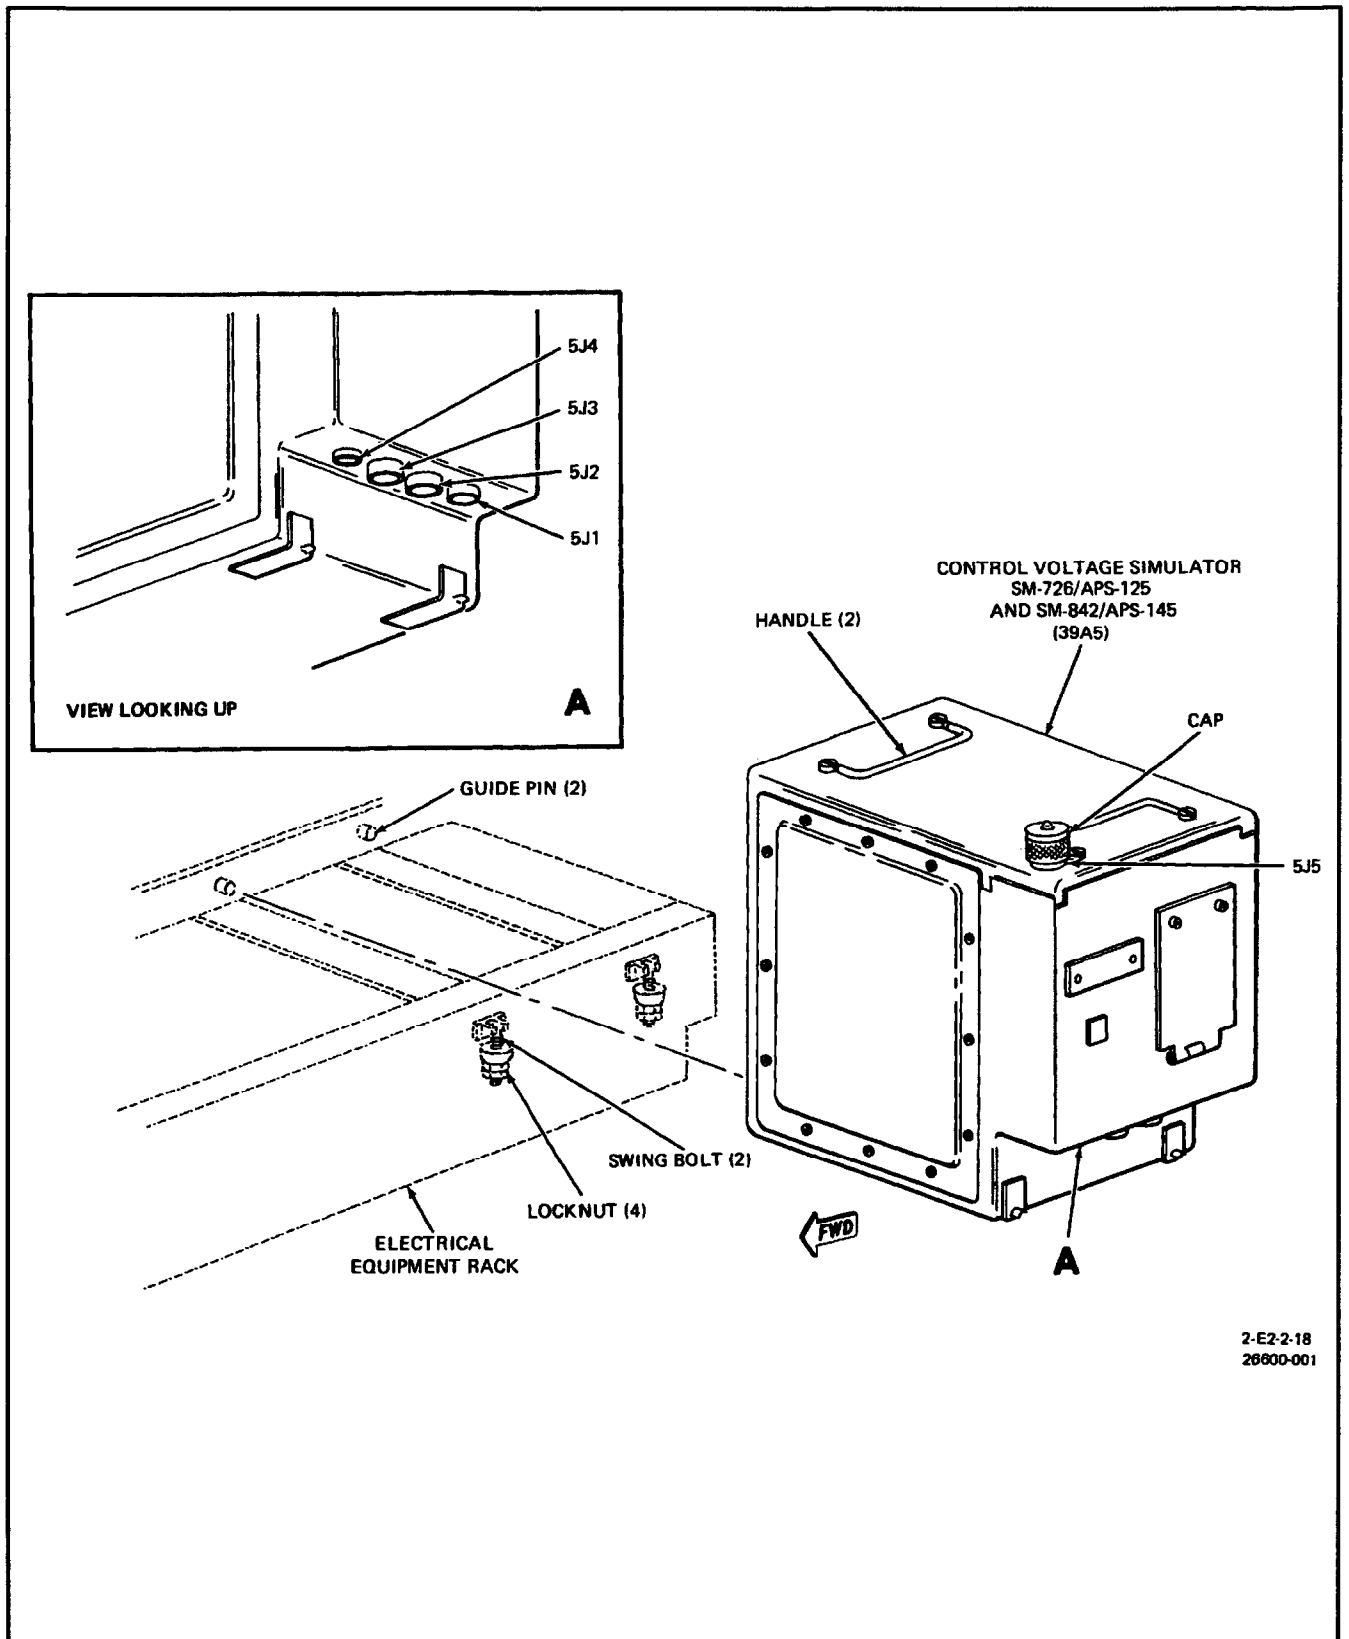

Figure 1. Removal and Installation of Control Voltage Simulator SM-726/APS-125 and SM-842/APS-145
**4. INSTALLATION.** (Figure 1.)